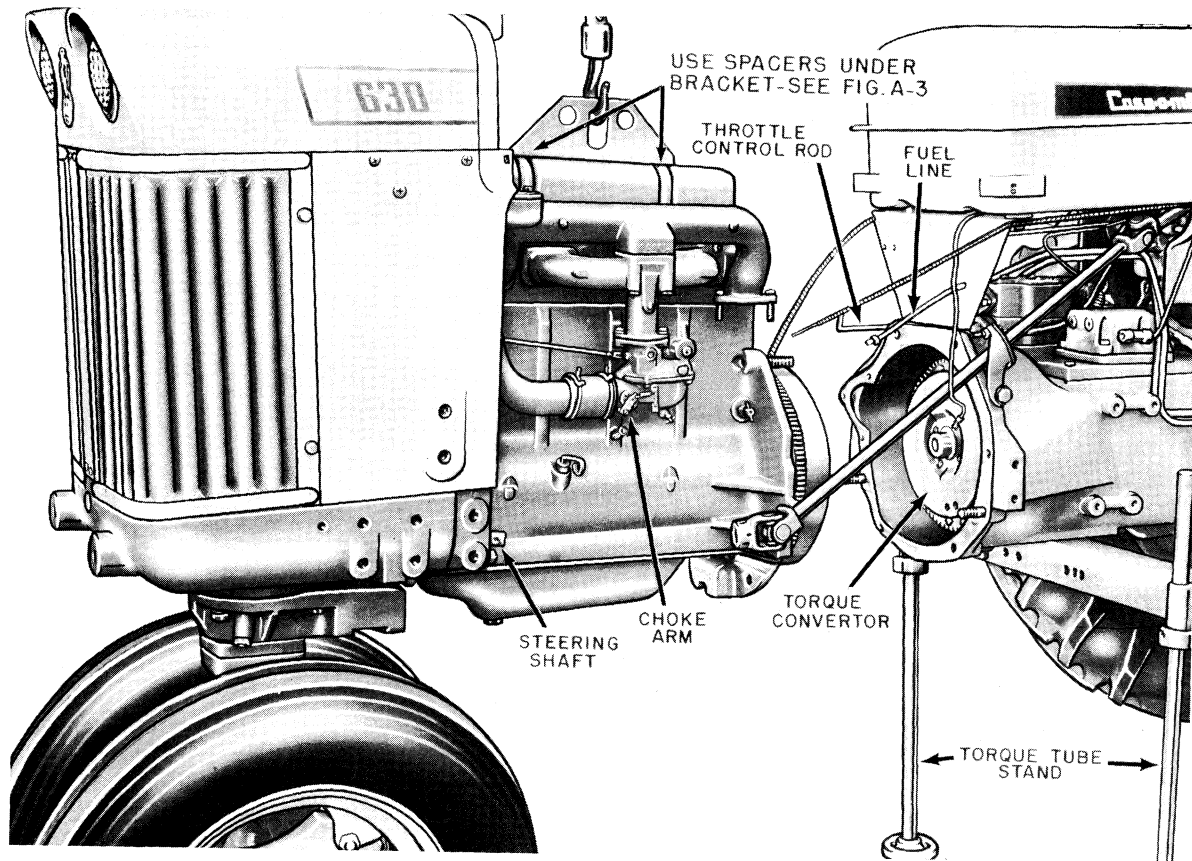

Fig. A-29 Case-O-Matic Drive Tractor - Split Between Engine and Torque Tube
18. On gasoline tractors, disconnect fuel line from carburetor. Fig. A-29.
19. On gasoline tractors, disconnect choke wire from carburetor. Fig. A-29.